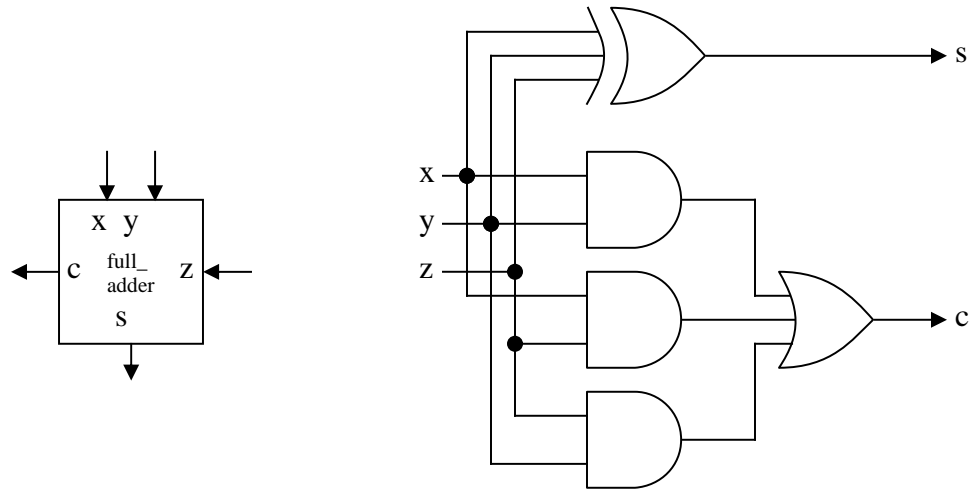

Figure 2: Full-Adder Block Diagram
Among the many different binary adder designs, the most straightforward one is the Carry-Ripple Adder (CRA). It is constructed using N full-adders. A full-adder is a single-bit version of the binary adder, where three binary bits (A , B and C_{in}) are inputted through a set of logic gates to produce a single-bit sum (S) and a single-bit carry-out (C_{out}), as shown in Figure 2. The N full-